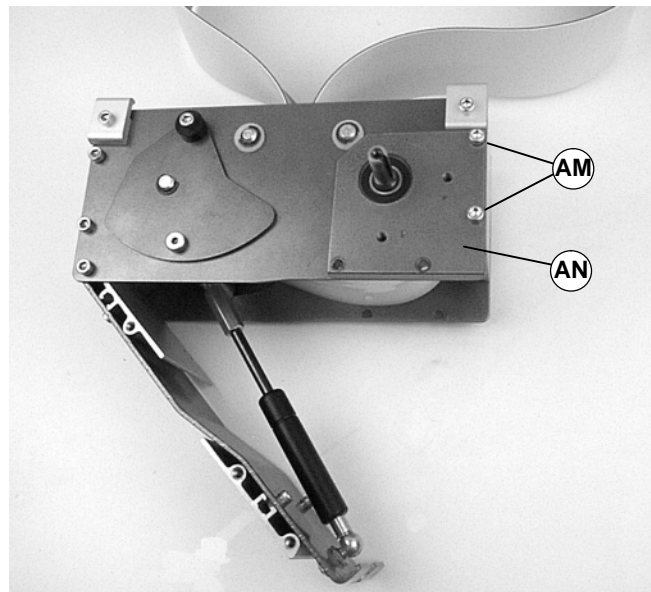
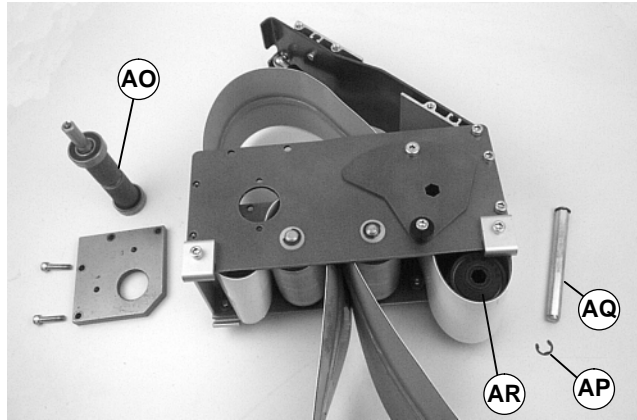
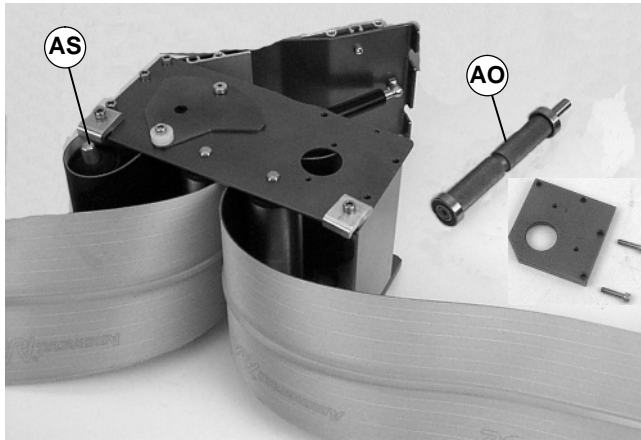

Figure 27
Figure 28
Figure 29
1. Remove two (2) screws (AM of Figure 27). Remove tension drive plate (AN).
2. Remove drive pulley [AO of Figure 28, 2" (44 mm), 3" (70 mm) or 4" (95 mm) wide conveyor] or [AO of Figure 29, 5" (127 mm) or wider conveyor].
- For 2" (44 mm), 3" (70 mm) or 4" (95 mm) wide conveyor, detach E-ring clip (AP of Figure 28). Remove pulley shaft (AQ) and remove pulley (AR).
- For 5" (127 mm) or wider conveyor, depress both sides of spring-loaded shaft and remove pulley (AS of Figure 29).
3. Place grooved idler pulley (AR of Figure 28 or AS of Figure 29) into belt loop and replace in center drive module. Refer to “Belt Removal from Center Drive Module” section and reverse step 3 on page 11.
4. Place drive pulley (AO of Figure 28 or 29) into belt loop and replace in center drive module. Refer to “Belt Removal from Center Drive Module” section and reverse steps 1 and 2 on page 10. Tighten screws (AM of Figure 27) to 80 in-lb (9 Nm).